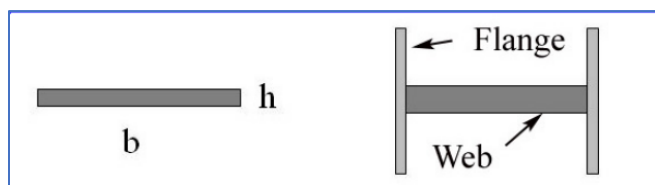

Figure 2: Beam Cross-section
where the height, h , is the dimension that is parallel to the direction in which the beam will buckle. The base, b , is the dimension perpendicular to this direction (see Fig. 2), and since $A=bh$, Eqn. (2) can be written as